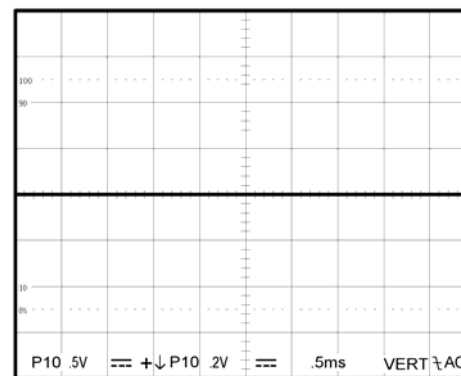

Figure 5-4 ADD mode
9. The figure 5-4 below shows a satisfactory display. The display will show a flat trace located on the center graticule that confirms the channel balance and ADD offset function.